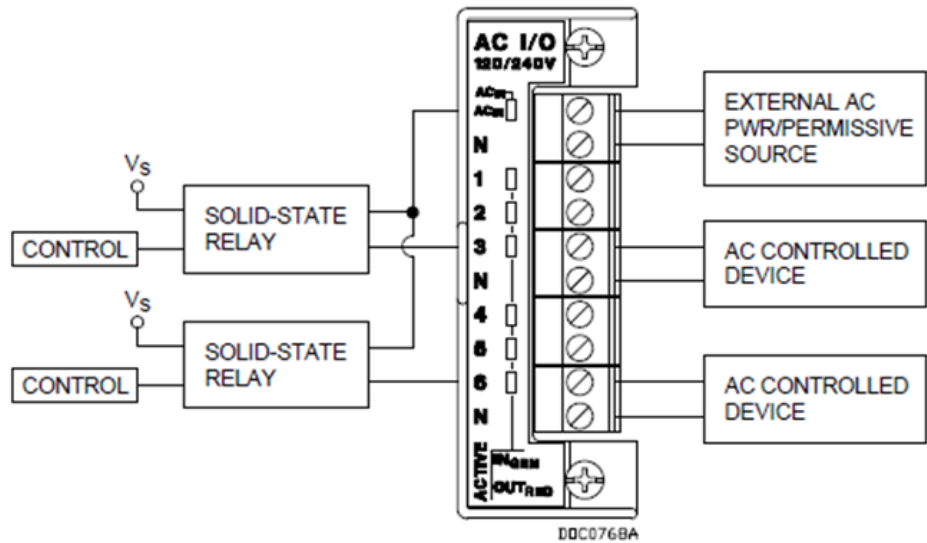

Figure E-12. AC I/O Module Output Field Wiring
**Hardware/Wiring** Connect the AC output channel with AC load and provide an AC supply (110 V or 230 V) to the AC I/O module. To test the AC output, you need to select channels as output channel on the AC I/O module using DIP switches on the module. (Refer to *Chapter 3* of this manual for more information on the DIP switch settings on the AC I/O module.) See *Figures E-12* and *E-13*.